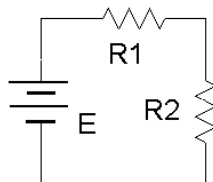

Figure 2
6. Build the circuit of Figure 2 using $E=10\text{ V}$, $R_1=10\text{ k}\Omega$ and $R_2=33\text{ k}\Omega$. Connect a probe from the channel one input to the power supply (red or tip to plus, black clip to ground). Connect a second probe from channel two to R_2 (again, red or tip to the high side of the resistor and the black clip to ground).